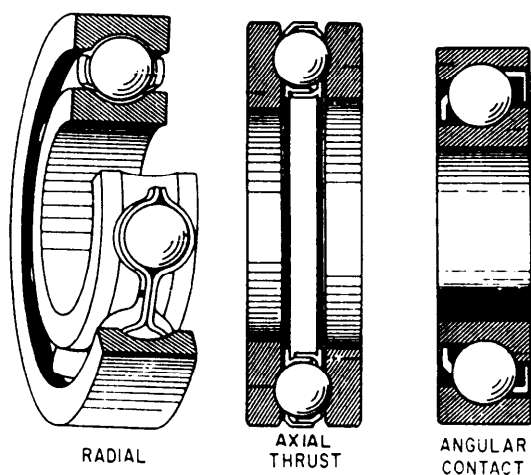

Figure 10-5.—Representative types of ball bearings.
There are two types of antifriction bearings—ball and roller. Basically, both types consist of two hardened steel rings, hardened steel rollers or balls, and separators. The annular, ring-shaped ball bearing is the type of roller bearing used most extensively in the construction of electric motors and generators used in the Navy. These bearings are further divided into three types dependent upon the load it is designed to bear— (1) radial, (2) axial thrust, and (3) angular contact. Examples of these three bearings are shown in figure 10-5.